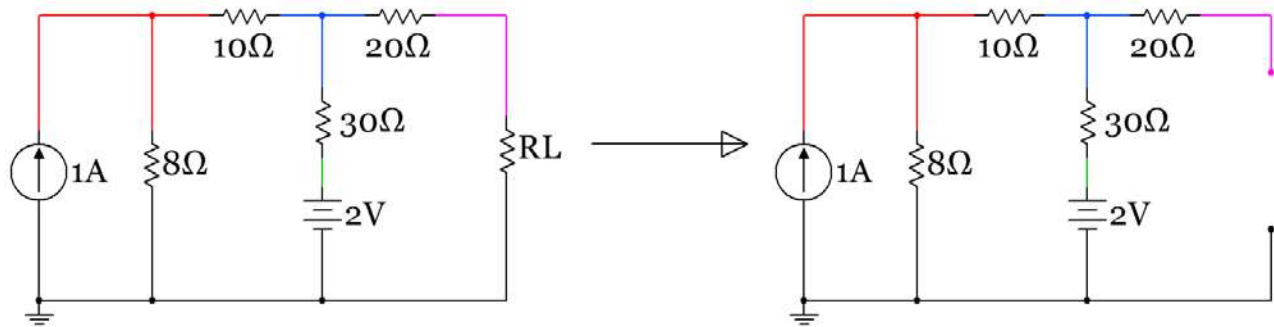
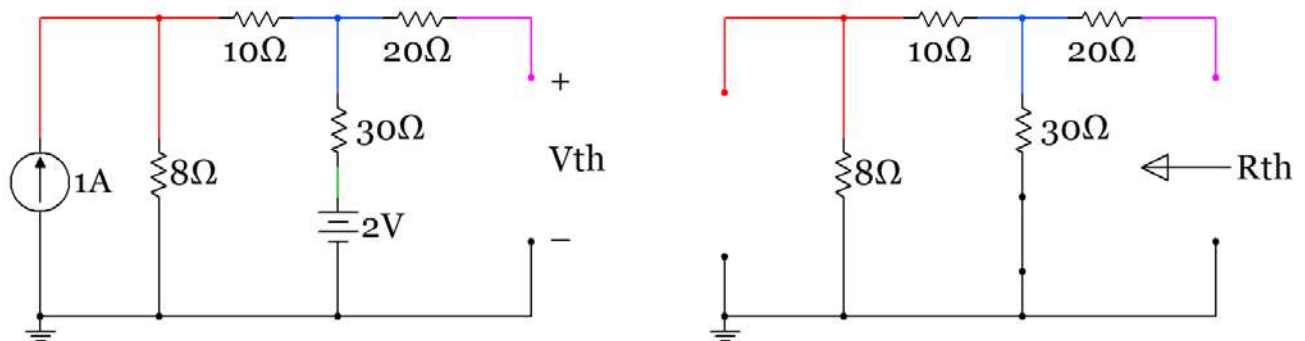
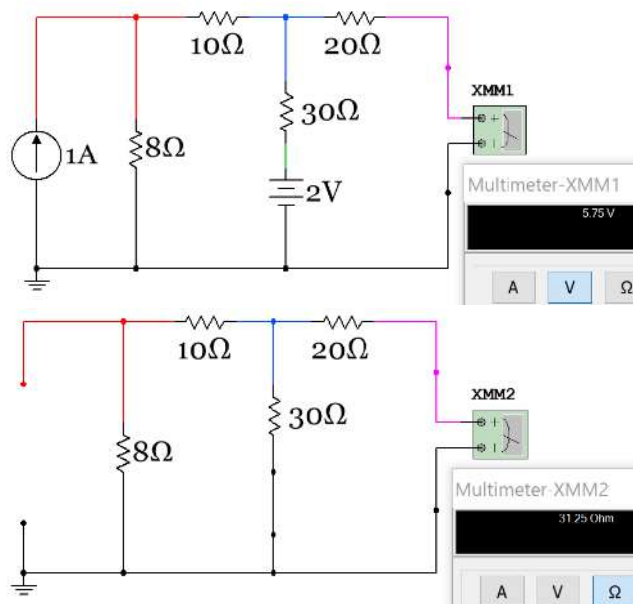

Figure 2.42: First step when asked to find the Thevenin equivalent circuit “external to R_L ”
Figure 2.43: Sub-problem 1 (Find V_{th} – left circuit), Sub-problem 2 (Find R_{th} – right circuit)
Figure 2.44: Multisim used to measure V_{th} (5.75 V) and R_{th} (31.25 Ω)
The reason finding the Thevenin equivalent circuit is an important circuit technique is that it allows a complicated circuit with multiple voltage and/or current sources and as many resistors as imaginable to be replaced with one independent source and one resistor (in either Thevenin or Norton form). There is usually not a need to solve for the Norton equivalent circuit because it is just as easy to just find the Thevenin equivalent circuit and then transform it to Norton form using the simple method explained in section 2.1. You can find the Thevenin equivalent circuit “external to” a specific resistor in a circuit by first removing that resistor from the circuit as shown in Figure 2.42.
1. **Find R_{th}** (or R_n) by “zeroing out” all sources (short voltage sources & open current sources) and combine resistors towards the spot in the circuit (i.e. where R_L was removed in Figure 2.42) where you are finding the Thevenin equivalent circuit “external to” as shown in Figure 2.43.
2. **Find V_{th}** by calculating the open circuit voltage across the spot in the circuit where you are finding the Thevenin equivalent circuit “external to” as shown in Figure 2.43.
Multisim can be used to determine V_{th} and R_{th} by using Multimeters in Volts and Ohms mode respectively. Figure 2.44 shows how to set up the measurements in Multisim.
Example 2.18) determine the Thevenin equivalent circuit external to R_L in Figure 2.43 by calculating V_{th} and R_{th} and compare the results to those measured by Multisim in Figure 2.44.
Sub-problem 1 – Find R_{th} by combining resistors in a similar fashion as done in section 1.2. In Module 1 you were advised to start with combining the resistors as far away from the voltage or current source as possible. For Thevenin equivalent circuit problems you should start with combining resistors as far away from the spot in the circuit where the R_{th} is to be found (as shown by the arrow in Figure 2.43). The following figure shows how R_{th} is calculated with the circuit redrawn each time a resistor is combined. As shown in Module 1 if you become skilled in combining resistors you could write the equation for R_{th} by inspection as: $R_{th} = [(8+10) \parallel 30] + 20 = \mathbf{31.25 \Omega}$
Sub-problem 2 – Find V_{th} by solving for the open circuit voltage shown in Figure 2.43. The easiest way to do this is to transform the 1A current source to a voltage source so a one loop circuit is left. Notice that the 20Ω resistor is in series with an open circuit so it has no effect on V_{th} (No current flowing through it means no voltage drop across it). The 20Ω resistor only has an effect on R_{th} in this circuit. The following figure shows the circuit transformed and the 20Ω resistor removed since it has no effect on V_{th} .